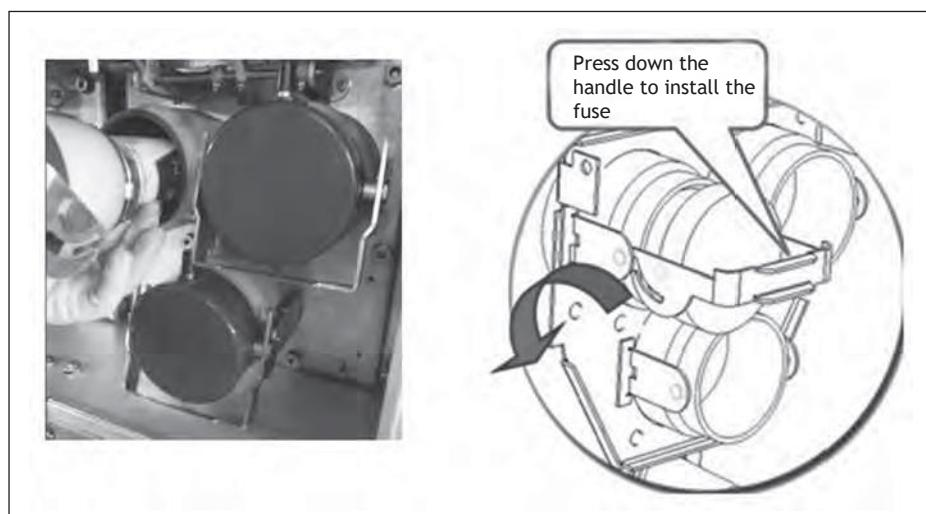

Figure 18 Fuse cylinder operation example
- g. As shown in **Figure 18**, insert the fuse into the insulation cylinder horizontally, ensuring the inner side of the fuse has good contact with the contact button inside the insulation cylinder. Push the locking plug slightly to make the handle's notch clutch onto the pin of the cabinet. Then press the handle from the horizontal position to vertical position, to complete the installation of the fuse.
- g. Insert the fuse into the insulation cylinder horizontally, ensuring the inner side of the fuse has good contact with the contact button inside the insulation cylinder. Push the locking plug slightly to make the handle's notch clutch onto the pin of the cabinet. Then press the handle from the horizontal position to vertical position (see **Figure 18**), to complete the installation of the fuse.